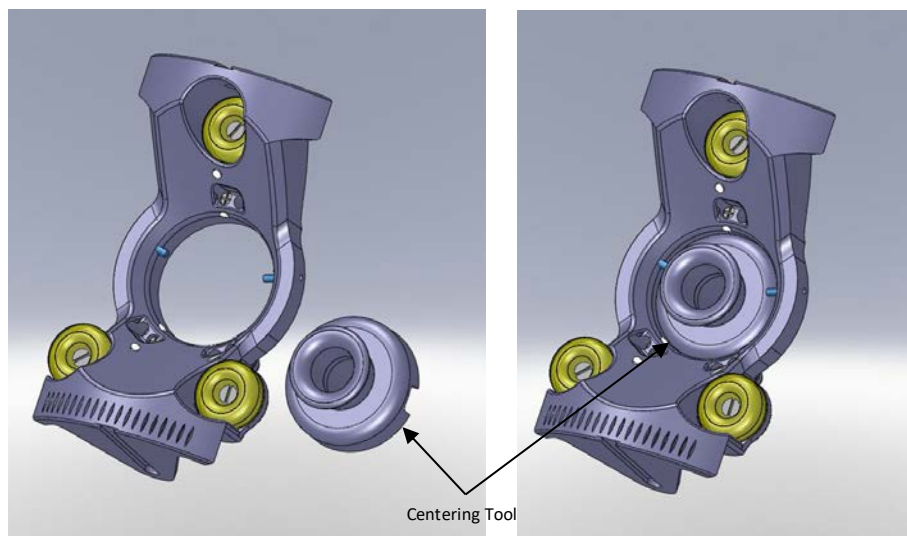

Figure 3: Base Mounting Orientation
2. Position the Base over the Centering Tool or visually center the Base over the burr hole with the single yellow fiducial marker in the up position. **See Figure 3.**
3. Using the supplied screw driver, mount the Base with the three (3) pre-mounted self-tapping screws to the skull.